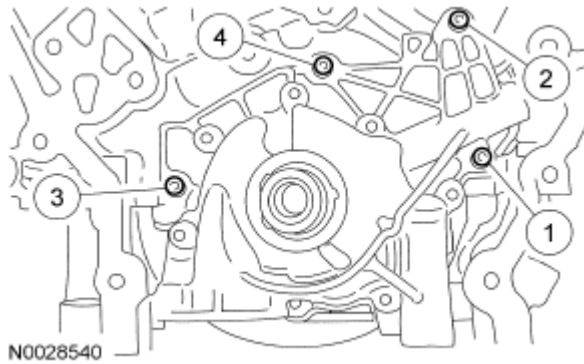

Fig. 102: Identifying Removing Sequence Of Bolts
4. Remove the bolts in the sequence shown in **Fig. 102**.